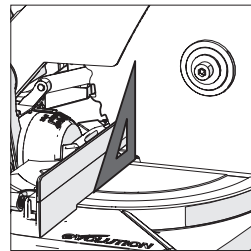

Fig. 9
- Place the set square on the table with one short edge against the table and the other short edge against the blade (avoiding the TCT tips of the blade teeth) (Fig. 9).